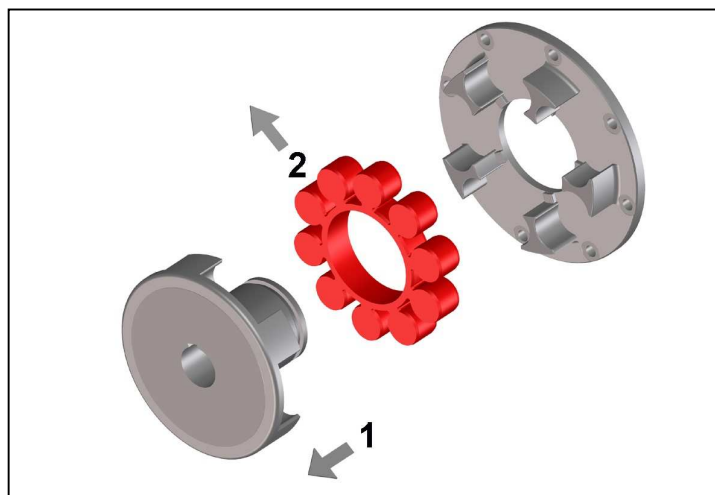

Fig. 10
- Push back one of the coupling halves (Fig. 10, pos. 1).
- Remove the buffer ring (part 020) - (Fig. 10, pos. 2).